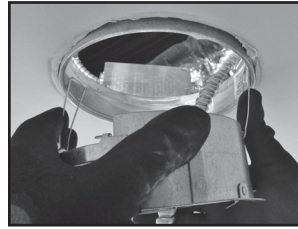

Figure 40.
- Install LED engine and trim assembly by inserting torsion springs into spring receivers located inside retrofit ring assembly on two sides (Figure 40).
1. Remove trim assembly from the housing (Figure 40).